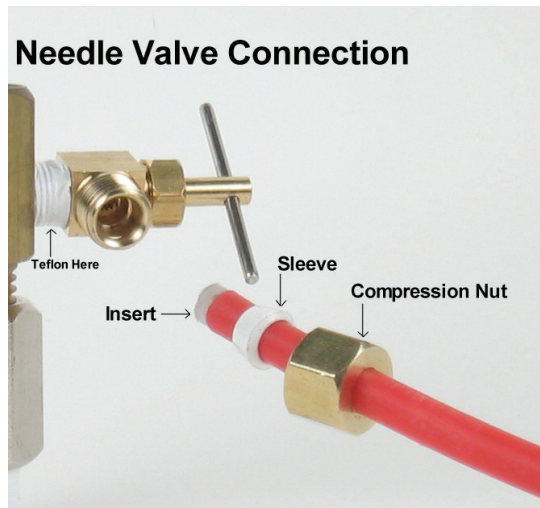

Fig. 6C
4. **Needle Valve:** See **Fig. 6C**. Screw the Needle Valve onto the Adaptor tightly. Apply 6-8 rounds of Teflon tape onto Needle Valve before attaching it to the Adaptor.